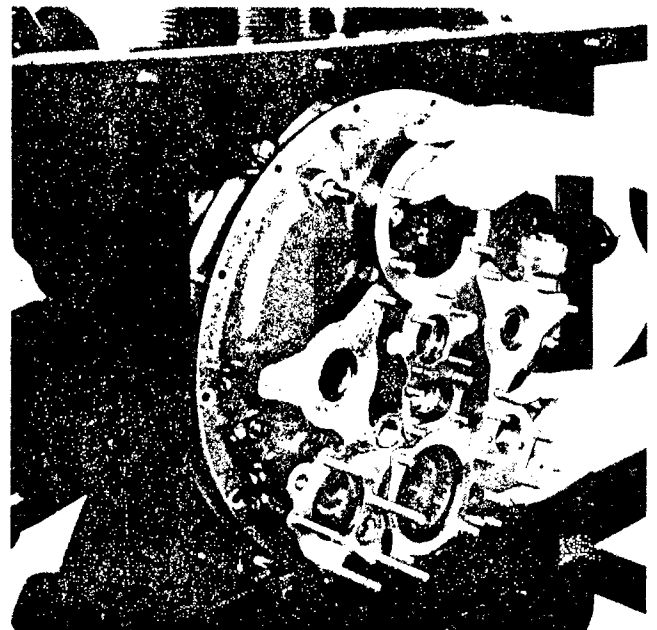

Figure 38 — Removing Accessory Case
(4) Remove the 13 nuts and washers holding the accessory case to the main crankcase. Break loose the accessory case from the main crankcase at its parting flange and withdraw it across the mounting studs. Complete the unscrewing of the rear crankshaft nut, and remove the accessory case assembly from the rear of the engine. (See figure 38.)